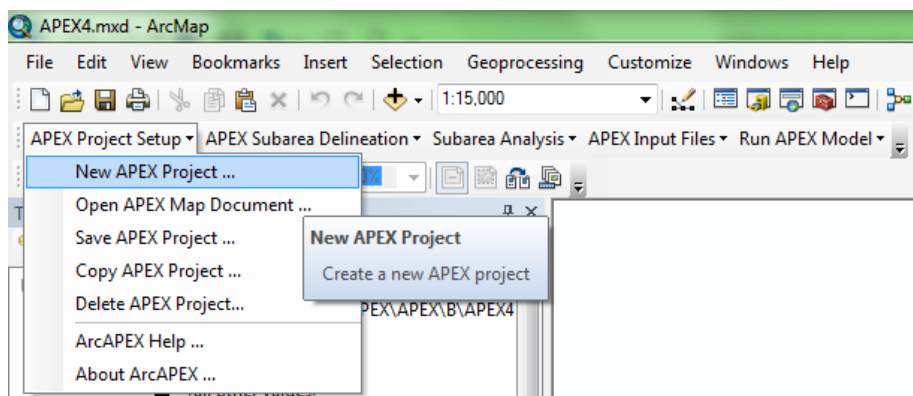

Figure 3.2 ArcAPEX project setup
1. From the **APEX Project Setup** menu, click the **New APEX Project** command (Figure 3.2).